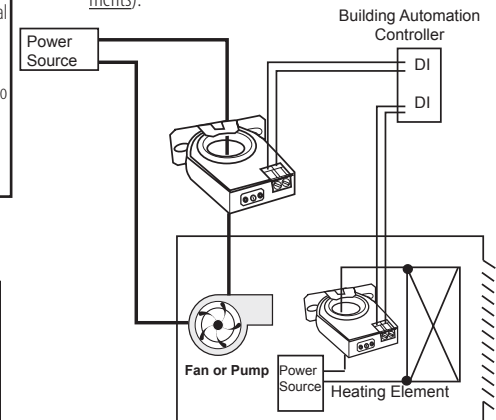
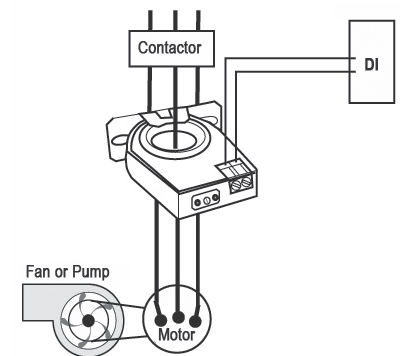

Figure 2: CSSGFN025NN
Figure 3: CSSGA2100NN
- Wire CSS output terminals to the control box Digital Input (DI) terminal (30 V maximum terminal voltage).
- Reconnect the power conductor cable (see Figure 2 and Figure 3 for wiring examples).